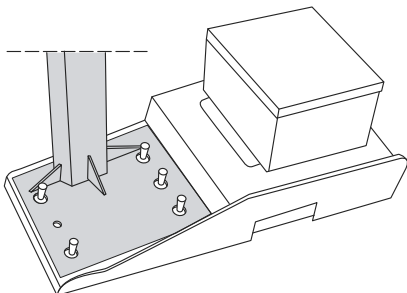

Figure 3
2. Two people may now stand the tower up. Position the tower so the film carriage faces the turntable. Align the holes in the base of the tower with the 5 threaded studs in the frame. (See Figure 3)